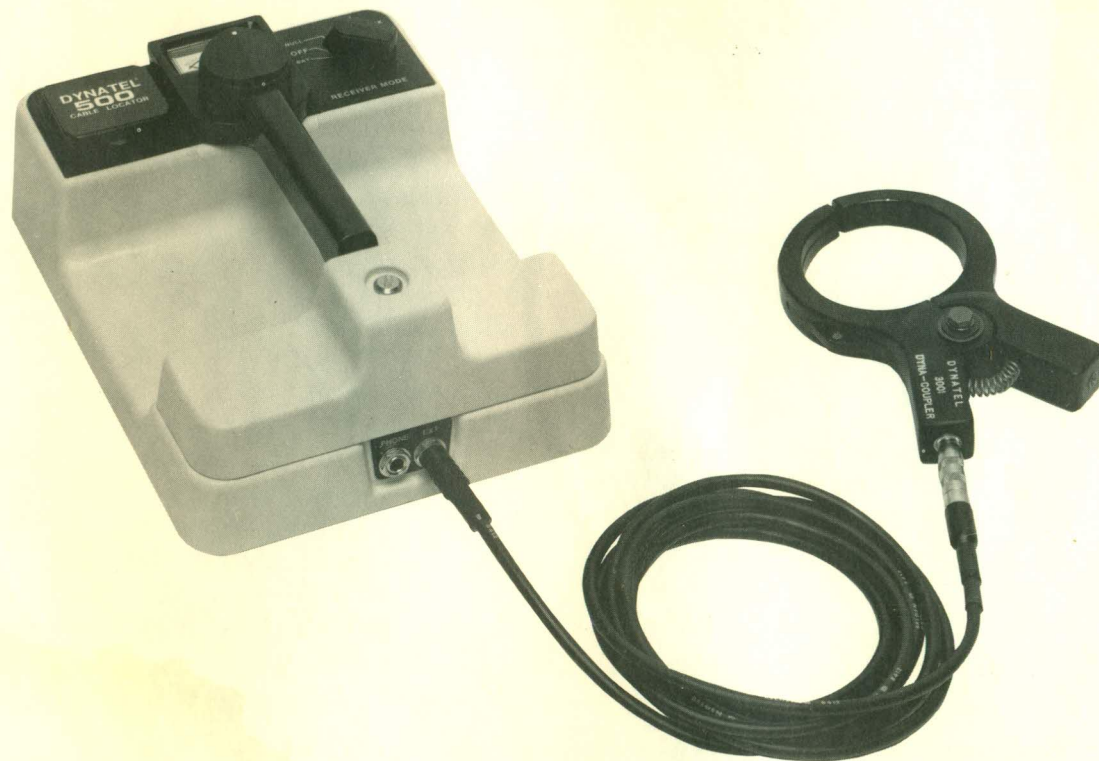

Figure 9. Receiver Setup for Cable Identification
- 2) With the coupler cable, connect the Dyna-Coupler® to the receiver EXT input jack. Set the RECEIVER MODE selector to EXT. See Fig. 9.